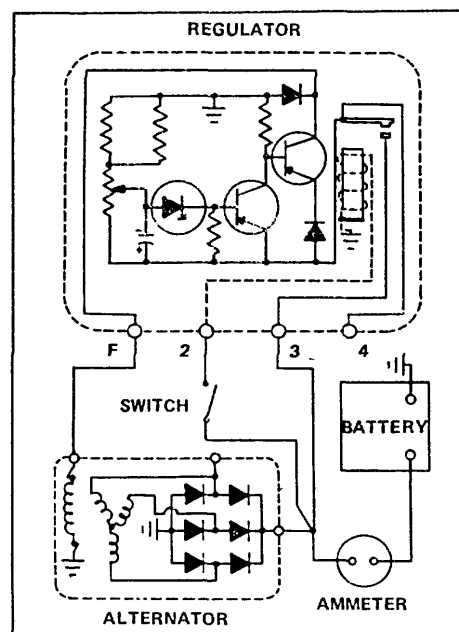

Figure 1-3. Charging System Basic Schematic
**1-11. ALTERNATOR.** The alternator is an ac generator designed and constructed to give long service with a minimum of maintenance. The rotor is mounted on a ball bearing at the drive end, and a roller bearing at the slip ring end, and each bearing has a grease supply which eliminates the need for periodic lubrication. Two brushes are used to carry current through the two slip rings to the field coil which is mounted on the rotor. The brushes are extra long and under normal operating conditions will provide long periods of service. The stator windings are assembled on the inside of a laminated core that forms part of the frame. Six rectifier diodes, mounted in the slip ring end frame, are connected to the stator windings. The six diodes change the ac voltage to dc voltage which appears at the BAT terminal on the alternator. A capacitor, or condenser, mounted in the end frame protects the diodes from high voltages. Current output of the alternator is self-limiting by design to its rated maximum, regardless of speed or external circuit conditions. An externally mounted voltage regulator limits the operating voltage to a specified value through the full speed range of the alternator. Figure 1-3 shows a schematic view of the alternator and regulator.
**1-12. VOLTAGE REGULATOR.** The transistor is an electrical device made of semiconductor materials which is used as a switch to control the alternator field current in order that alternator voltage can be limited to a proper value. Figure 1-3 is a greatly simplified diagram of the alternator and regulator circuit. A brief description of the operation follows:
1. When the ignition switch is closed, battery voltage supplies current through the emitter (E) and collector (C) of the transistor to the field coil of the alternator. This emitter-collector circuit is complete since the transistor is turned "on" by a higher voltage on the emitter than on the base (B), which permits emitter-base current to flow.